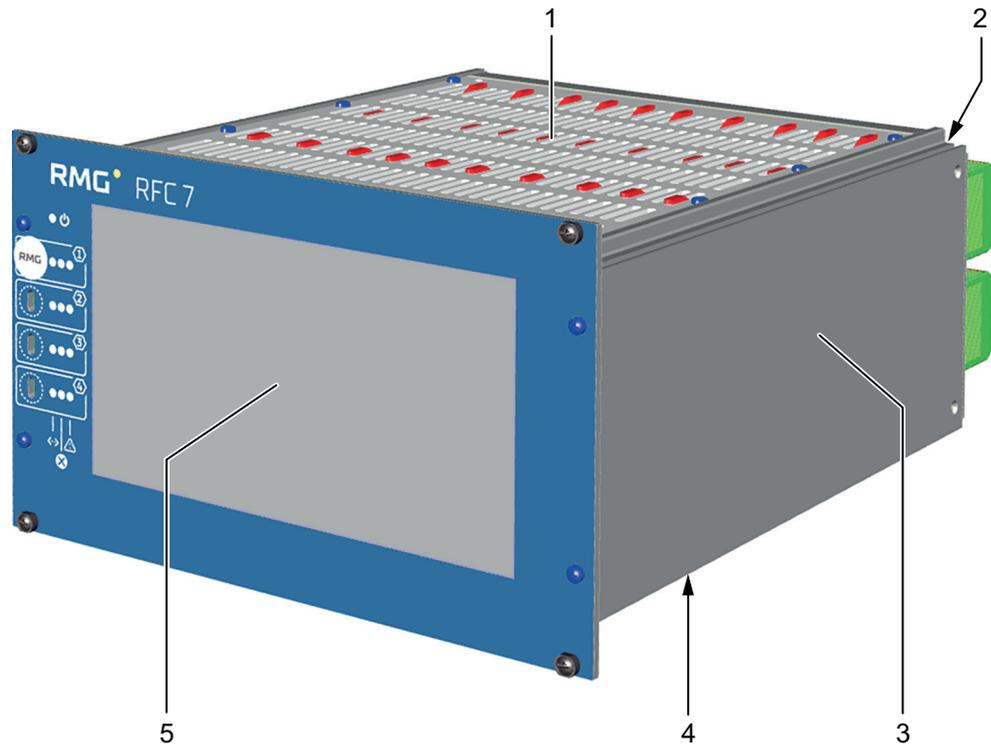

Fig. 7: RFC 7 – 19" housing for 1 to 2 streams
- 19" housing for 1 - 2 streams, cf. fig. 7